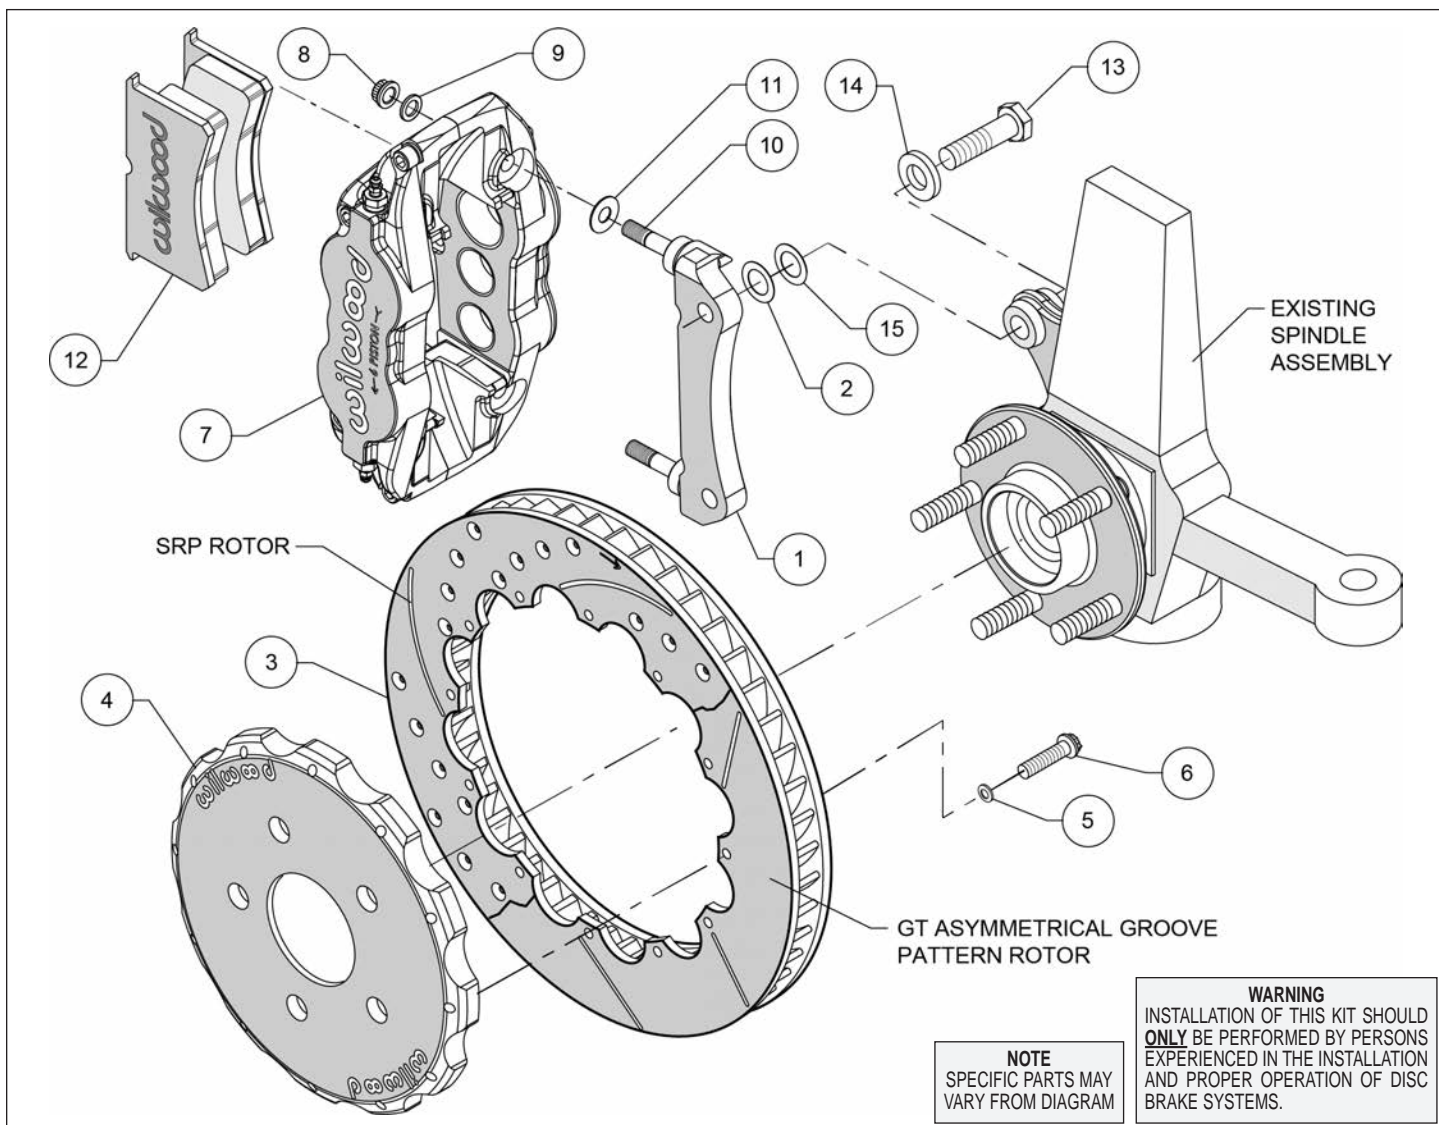
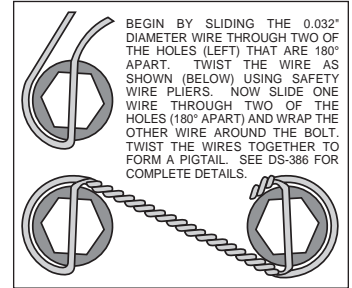

Figure 1. Typical Installation Configuration
Figure 3. Safety Wire Diagram
Assembly Instructions (numbers in parenthesis refer to the parts list and Figure 1 on the preceding pages):
- The caliper mount bracket (1) should initially be installed with clean, dry threads on the mounting bolts. Orient the bracket, as shown in Figure 1 and install using bolts (13) and washers (14). Initially place one .029" thick shim (15) on each bolt between the bracket and upright, Figure 1. Temporarily tighten the mounting bolts. **NOTE:** *The bracket must fit squarely against the mount bosses on the upright.* Inspect for interference from casting irregularities, machining ridges, burrs, etc. Later, after the caliper alignment has been checked, the mount bolts will be secured using red *Loctite*[®] 271.
- Orient the rotor (3) and the hat (4) as shown in Figure 1 and Photo 1. Attach rotor to hat using bolts (6) and washers (5). Using an alternating sequence, apply red *Loctite*[®] 271 to the threads, and torque to 155 **in-lbs**. For an added measure of security, the bolts may be safety wired using standard 0.032 inch diameter stainless steel safety wire as shown in Figure 3. Refer to Wilwood's data sheet DS-386 (available at www.wilwood.com/Pdf/DataSheets/ds386.pdf) for complete safety wire installation instructions.
- NOTE:** *This kit contains distinct right and left hand calipers that must be mounted in a specific direction, as described below.* Lubricate the caliper mounting studs (10) with lightweight oil. Initially place one .035" thick shim (11), on each stud as shown in Figure 1 and Photo 2. Mount the caliper (7) onto the bracket (1) using lock nuts (8) and washers (9), Figure 1. Ensure that the caliper is mounted so that the largest pistons are at the rotor exit end of the caliper, in relation to the direction of rotor rotation. Temporarily tighten the lock nuts and view the rotor through the top opening of the caliper. The rotor should be centered in the caliper, Photo 3. If not, adjust by adding or subtracting shims (2 and/or 15) between the bracket and the upright. Always use the same amount of shims on each of the two mounting bolts. Once the caliper alignment is correct, remove the bracket mounting bolts (13) one at a time, apply red *Loctite*[®] 271 to the threads, and torque to 77 ft-lb.